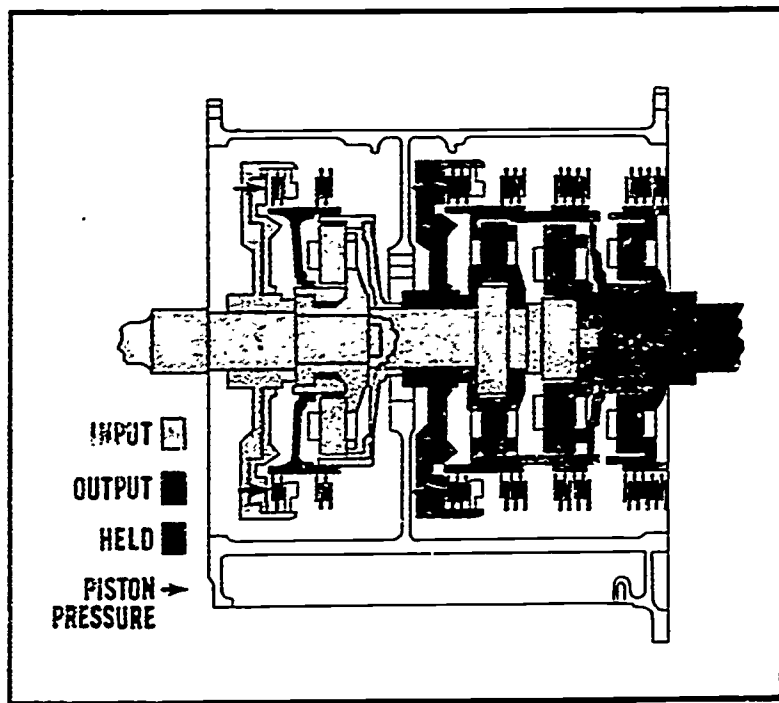

Fig. 7 Fifth range power flow
The following parts are connected together: splitter ring gear (30), intermediate sun gear (70), and low sun gear (62). As the shaft revolves, it drives the entire range gearing and output shaft (51) in the same direction and speed. See Figures 7 and 8.